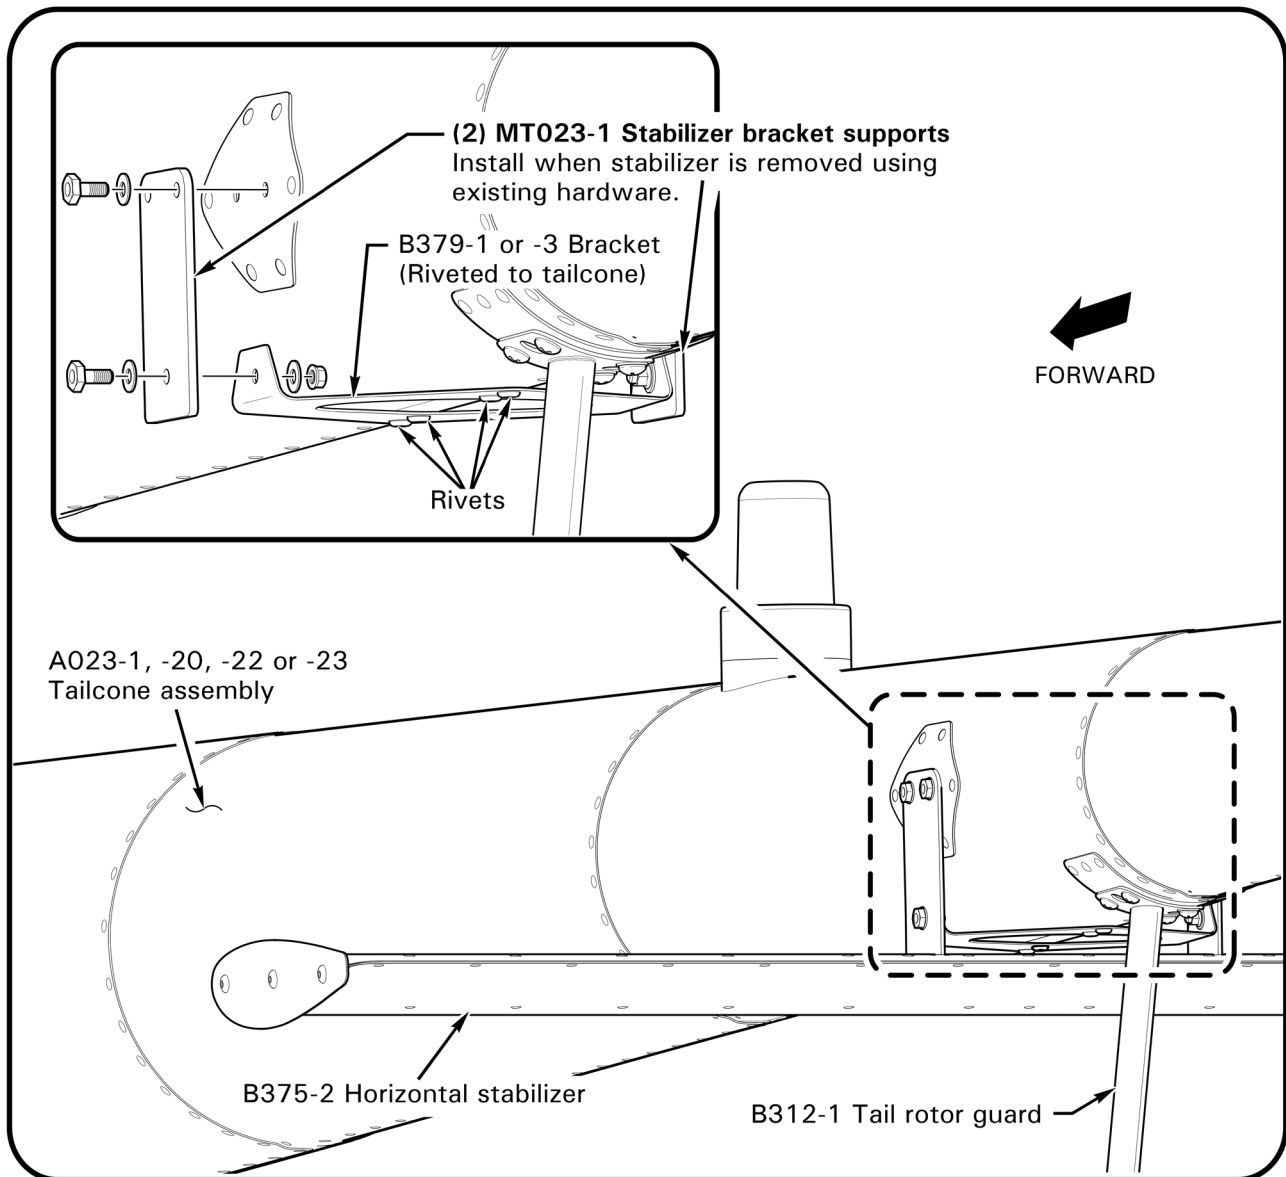

FIGURE 4-4 B375-2 HORIZONTAL STABILIZER ASSEMBLY
1. Refer to Figure 4-4. Remove hardware securing B375-2 horizontal stabilizer assembly to B379-1 or -3 bracket.